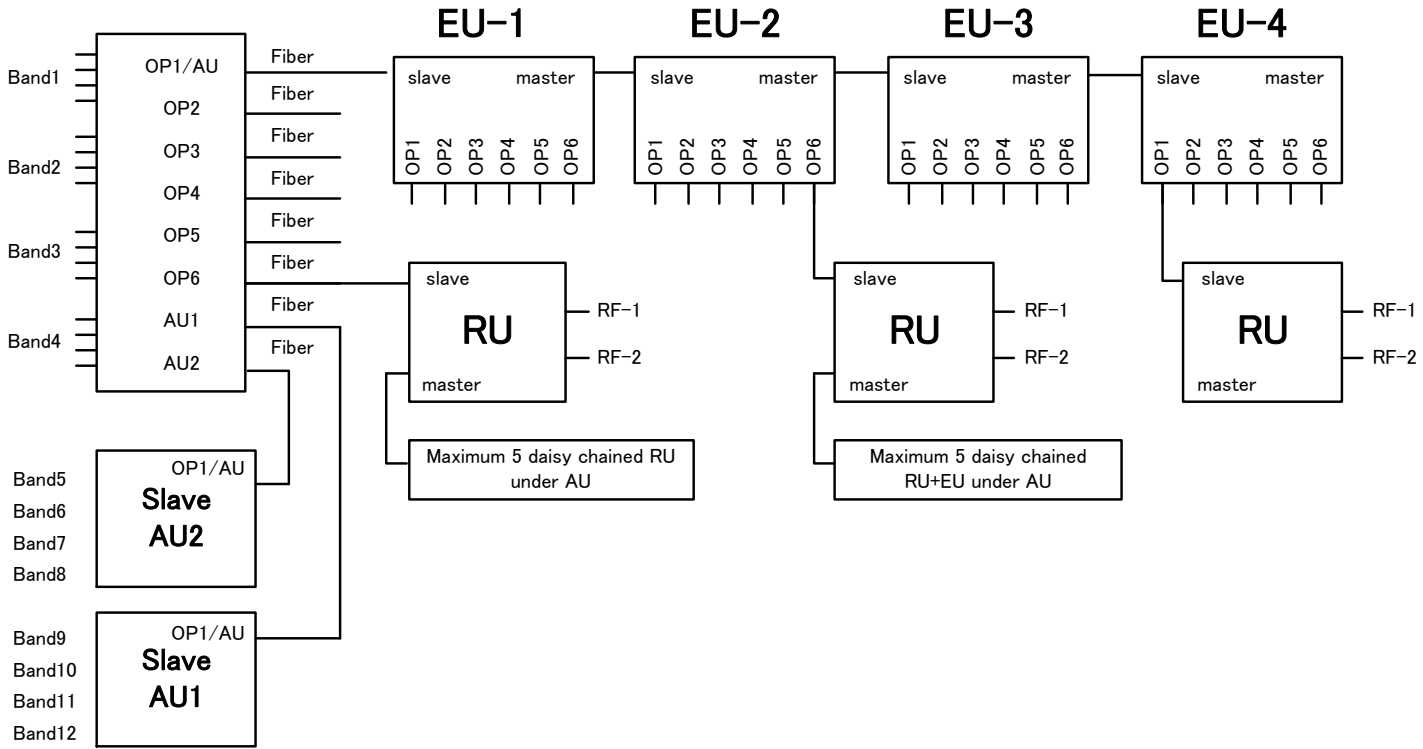

Figure 1-3 Networking Layout
The IDAS has a number of different networking layouts shown as Figure 1-3:
- In smaller systems, the AU and RU can be directly connected without the EU, as shown in Figure 1-3.